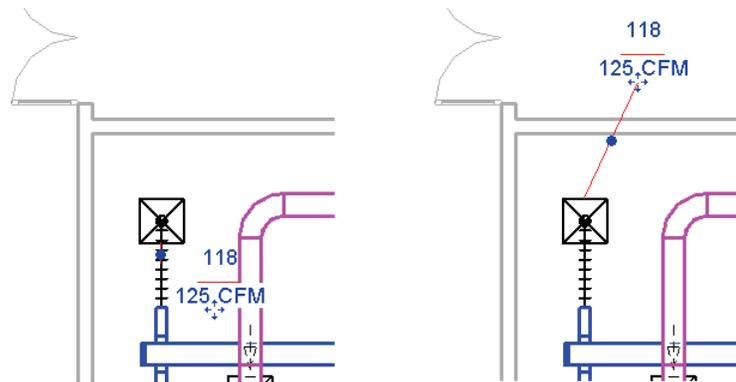

Figure 2-53
5. Pan over to the lower left room in the building. Select the tag that overlaps the ductwork as shown on the left in Figure 2-53.
7. Use the **Move** control to move the tag outside the room to a position in which it is not overlapping anything as shown on the right in Figure 2-53.